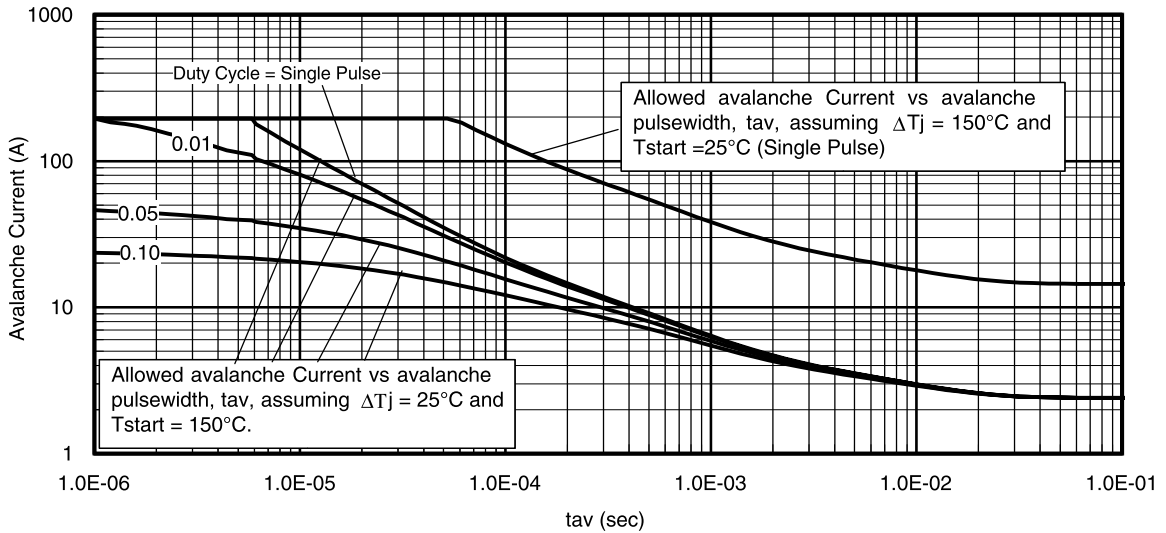

Fig 14. Typical Avalanche Current vs. Pulsewidth
| I_{AR} | Avalanche Current ② | See Fig. 14, 15, 22a, 22b | A |
Notes on Repetitive Avalanche Curves , Figures 14, 15:
7. ΔT = Allowable rise in junction temperature, not to exceed T_{jmax} (assumed as 25°C in Figure 14, 15).